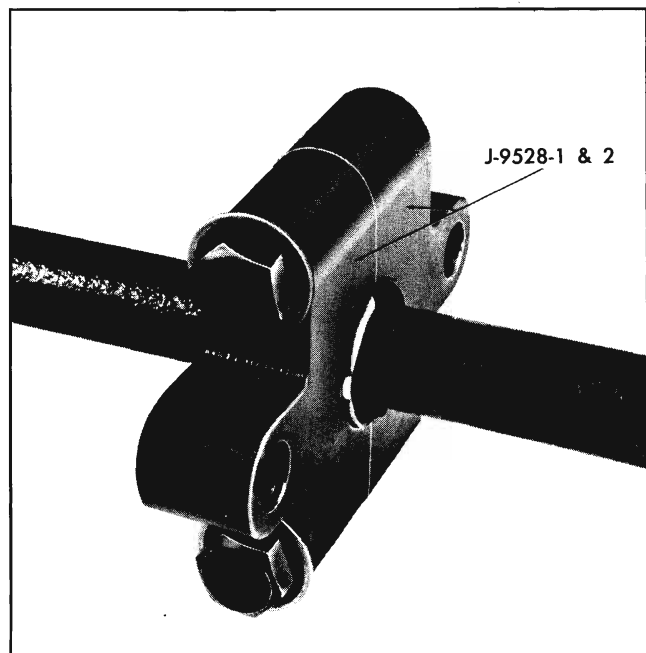

Fig. 4-22 J-9528-1 & 2 Installed on Shaft
2. Position half-shells on shaft and secure with J-9528-1 & 2 (Fig. 4-22). Tighten bolts securely.